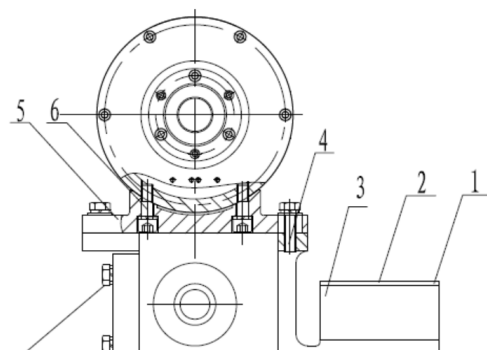

Fig. 1.2
Loosen item 1 four screws in fig. 1.2, remove the item 2 cover, remove the item 3 brake power line and micro switch line from the terminal, and remove the item 4 four bolts, the brake and item 5 base can be removed from brake mounting bracket, remove the item 6, the brake can be removed from item 5 base.